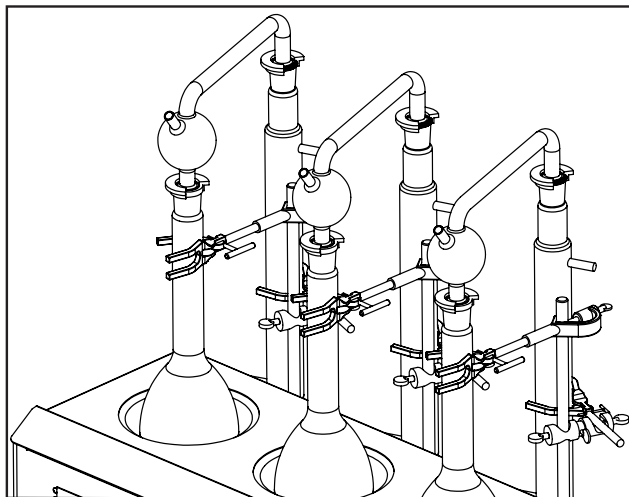

Fig. 13.1
8. Make sure that the interchangeable joint of both glass part are properly grounded before attaching the Plastic clip. (**Note:** Now adjust the Vertical condenser and the finger clamp as shown in the figure below. The vertical condenser should be assembled to the unit's Right as shown in the figure 13.1 to avoid any difficulty.)